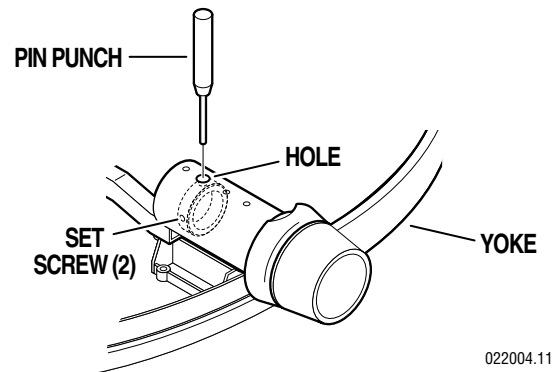

Figure 4-4. Lighthouse pitch adjustment
c. Rotate the lighthouse until an allen set screw is visible through the adjustment hole. Loosen the set screw, rotate the lighthouse 180° and loosen the second set screw. See figure 4-4.